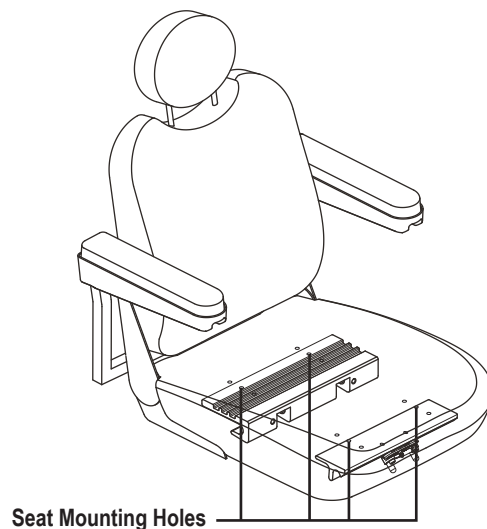

Figure 15. Seat Position Adjustment
6. Reposition the extrusions on a different set of mounting holes. You must move both extrusions the same number of holes either forward or backwards. **See figure 15.**